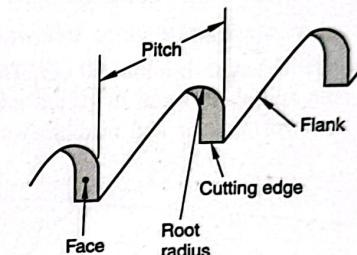

Fig. 1.27. (e)
**8. Pitch :** The distance between the adjacent cutting edges is called pitch. [See Fig. 1.27 (e)]